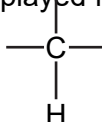

Fig. 6.3
- (vi) One of the monomers which forms part of a natural polyamide has **three** carbon atoms. Complete Fig. 6.3 to show the displayed formula of this monomer.